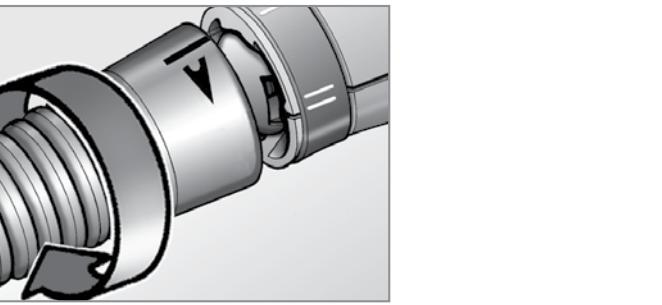

Fig. 2
a) slide the accessory as far as the stop so that the nozzle reference slot and the white slot on the appliance meet up (Figure 2);
The appliance is provided with an articulated joint which allows the jet of steam to be directed as desired: insert the straight nozzle until it covers the red round gasket. Bring the nozzle reference line to meet the white slot on the appliance (Figure 2).